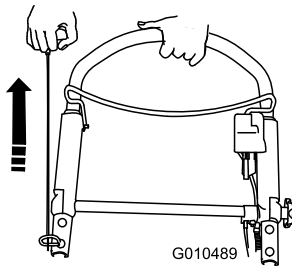

Figure 24
3. Pull the recoil starter (Figure 24).